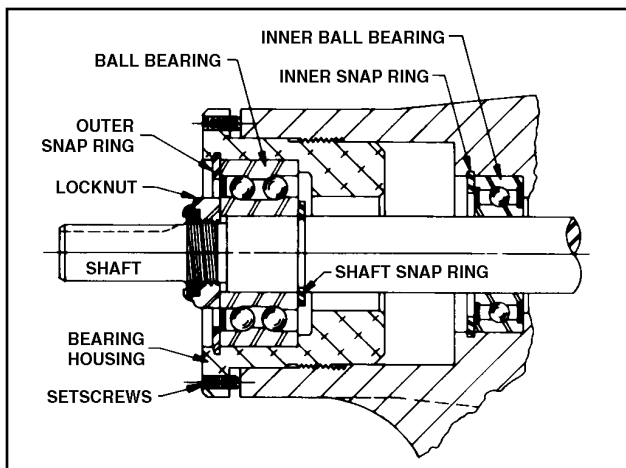
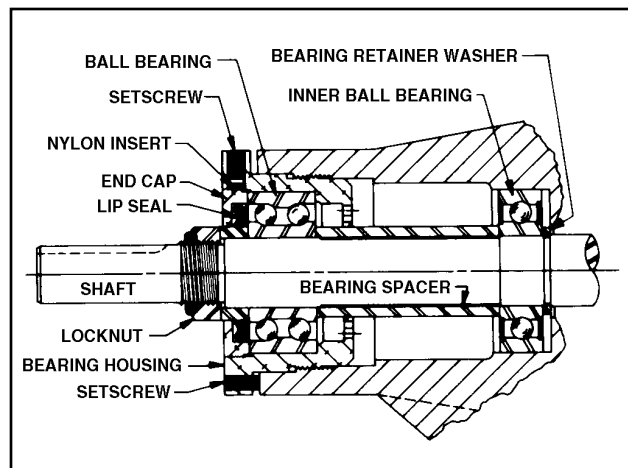

Figure 30 - Thrust-Bearing assembly (GG, HJ, HL)
Figure 31 - Thrust-Bearing assembly (AS, AK, AL)
5. Insert a brass bar or piece of hardwood in the port opening and between rotor teeth to keep shaft from turning. Turn the locknut counterclockwise and remove locknut. See Figure 30 or 31.
6. Loosen two setscrews in face of bearing housing and turn thrust bearing assembly counterclockwise and remove from casing. See Figure 30 or 31.
7. **GG, HJ, HL:** Remove snap ring from shaft. See Figure 30. **AS, AK, AL:** Remove bearing spacer from shaft. See Figure 31.
10. **AS, AK, AL:** Remove bearing retainer washer. The washer may have stayed with rotor and shaft when removed or is against ball bearing. See Figure 31.
GG, HJ, HL: Remove outer snap ring from bearing housing and remove ball bearing. See Figure 30.
AS, AK, AL: Loosen two set screws in flange outside diameter. Rotate end cap and lip seal counterclockwise and remove. Remove ball bearing. See Figure 31.
12. GG, HJ, HL: Install shaft snap ring in groove in the shaft. See Figure 30.
AS, AK, AL: Install bearing spacer over shaft and against single row ball bearing. See Figure 31.
13. Pack lubrication chamber between inner ball bearing and double-row ball bearing in the thrust-bearing assembly approximately one-half full of multipurpose grease, NLGI #2. The thrust-bearing assembly will take the remaining space. See Figure 30 and 31.
GG, HJ, HL: Install ball bearing into bearing housing with shield side toward coupling end of shaft. See Figure 30. Install snap ring into bearing housing to retain ball bearing. This snap ring has a tapered edge to fit tapered groove in bearing housing. The tapered edge is located away from ball bearing.
AS, AK, AL: Install ball bearing into bearing housing. Install lip seal in bearing housing end cap. The lip should face towards end of shaft. Put bearing spacer collar in lip seal and install in bearing housing and tighten setscrews securely. See Figure 31.
See Figures 30 and 31.